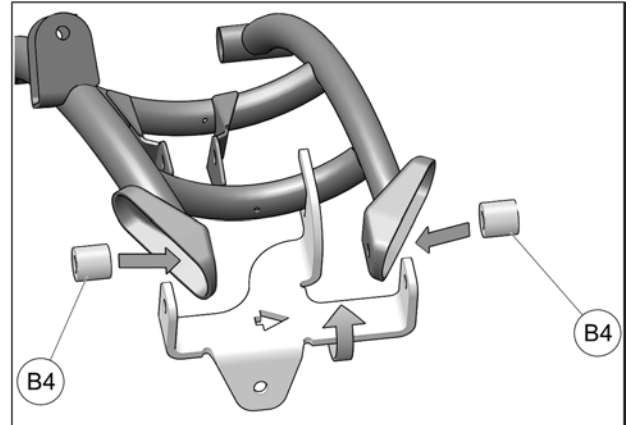

Fig. 6
6. Install spacers (B4) in the position shown below. Rotate anchor bracket up to align all holes. Fig. 6